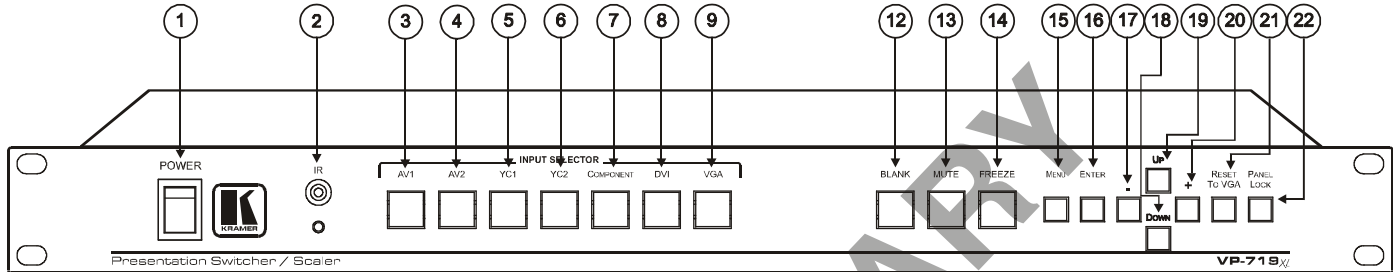
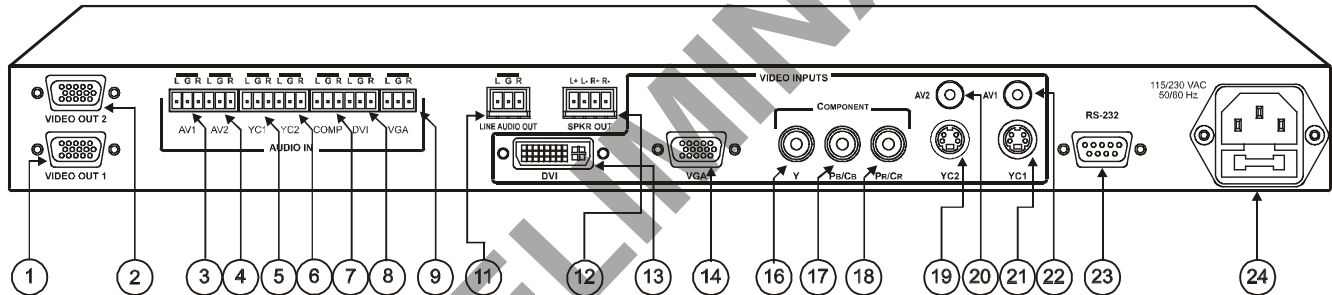

Figure 1: VP-719xl Presentation Switcher / Scaler Front Panel¹
Figure 2: VP-719xl Presentation Switcher / Scaler Rear Panel²
- Figure 1 and Figure 2 illustrate the **VP-719xl** *Presentation Switcher / Scaler*